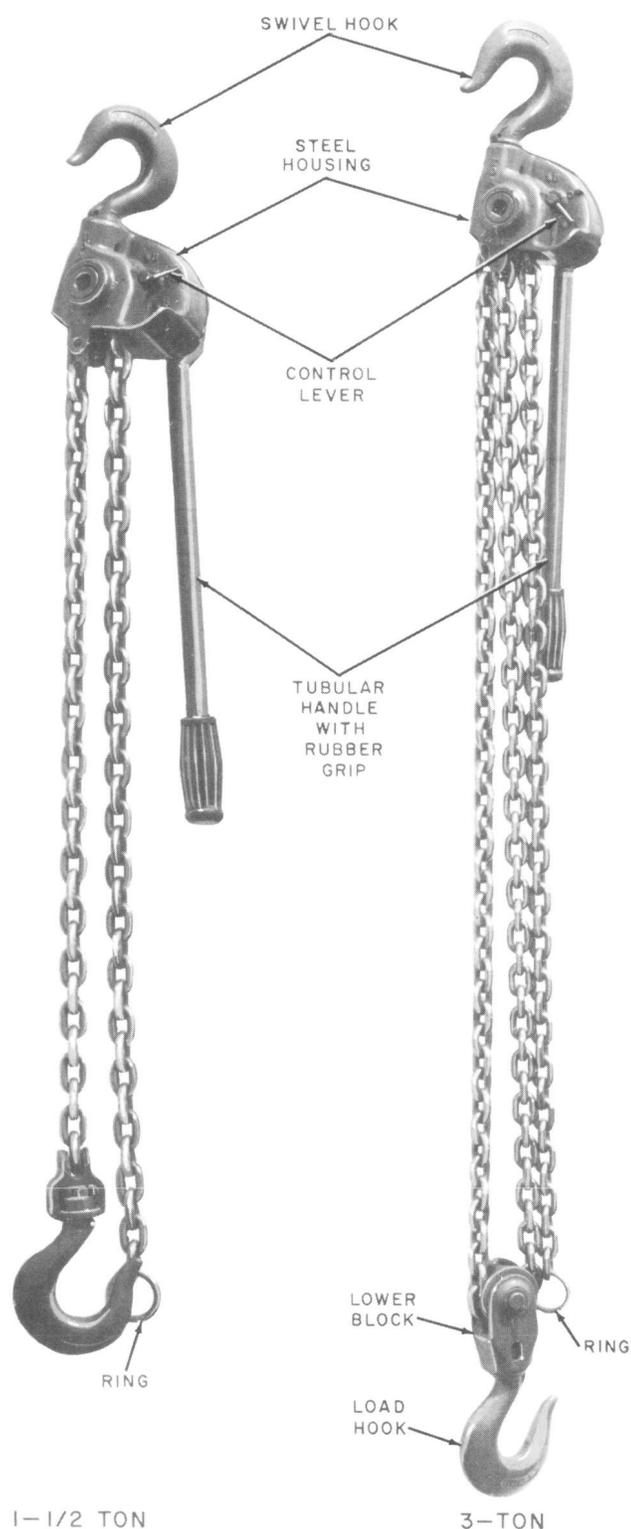

Fig. 1—E Chain Hoist
1.03 The E Chain Hoist (Fig. 1) is a ratchet and pawl-type hoist which is available in two load capacities, a 1-1/2 ton and a 3 ton. See Table A. The choice of hoist capacity to be used is